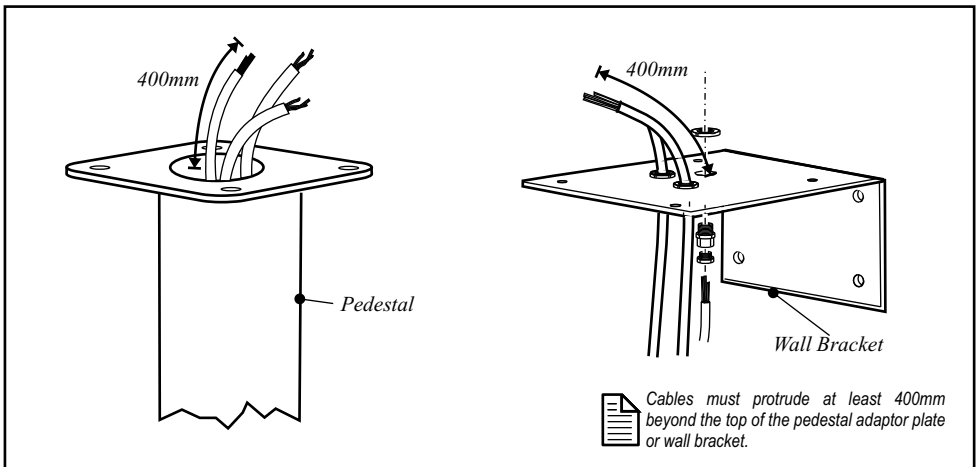

Figure 13 Pedestal Adaptor Plate Assembly
- Route cables as determined in the cabling plan (Fig. 5), making sure that all cables protrude at least 400mm above the pedestal mounting plate or wall mount bracket as shown in Fig. 13.